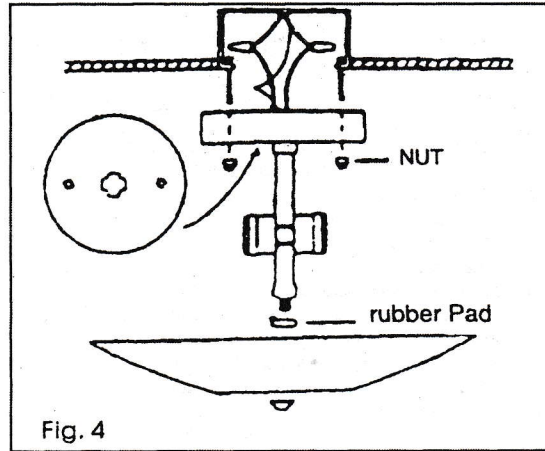

Fig. 4
4. If applicable, attach shades to fixture. Some shades require the use of shade attachment screws. Do not overtighten these screws – too much pressure could cause glass breaking. See Fig. 4 for placement of fabric spacer, not supplied on all models.